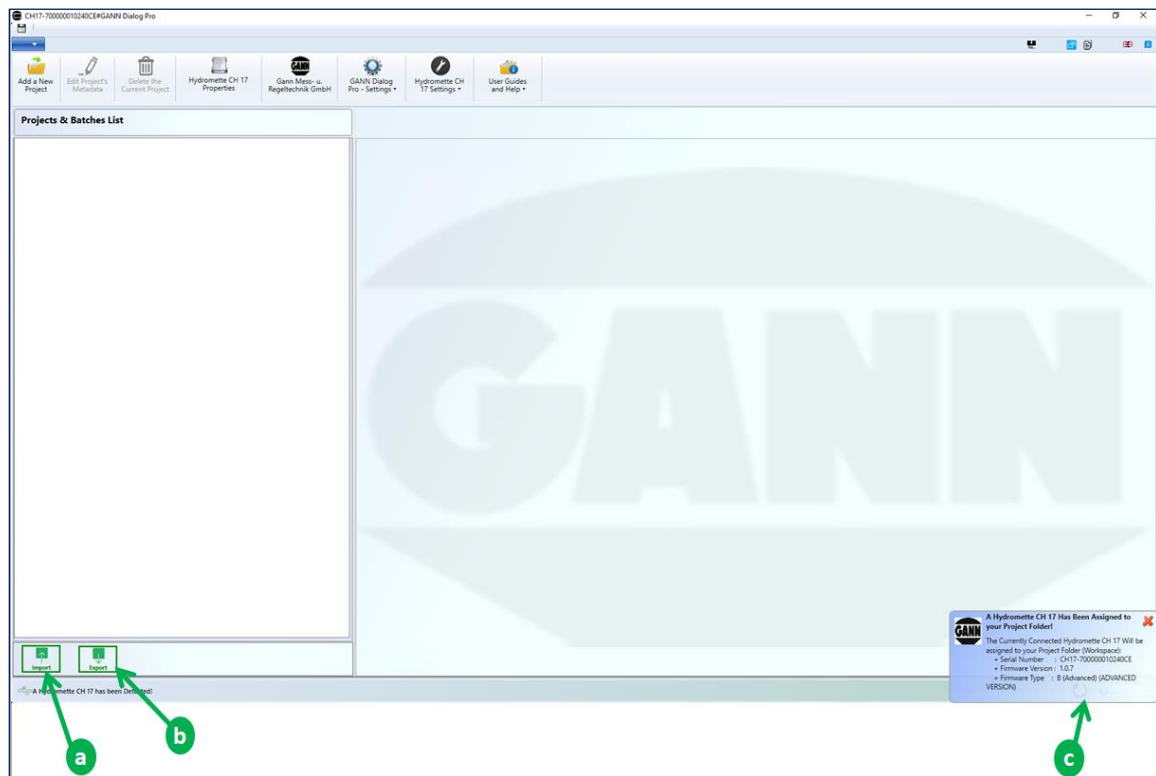

Figure 3-1: importing a project folder from a Hydromette CH 17
**First, connect your Hydromette CH 17 to your PC.** The PC software will automatically detect the connected device. As shown in Figure 3-1, the “Import” and “Export” buttons (a and b in Figure 3-1) will become active. Then a notification (c in Figure 3-1) will pop up. The notification icon indicates that the connected device will be associated to the current project folder on your PC.